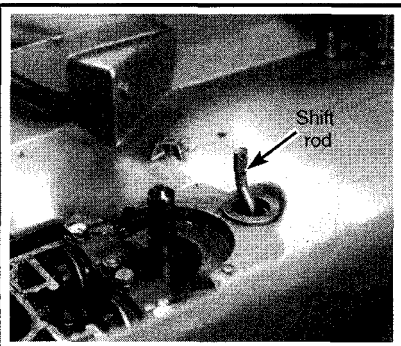

Fig. 11 View of the shift rod extending through the exhaust housing
- ◆ See Figures 11, 12, 13, 14, 15, 16, 17, 18, 19, 20, 21 and 22